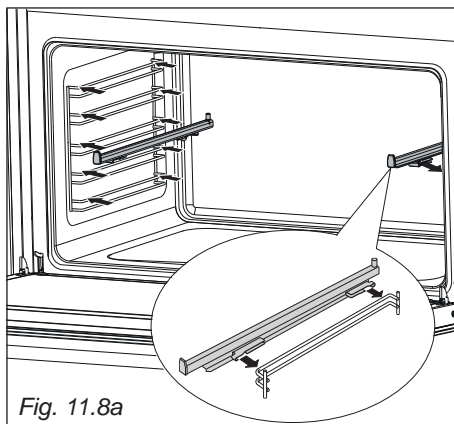

Fig. 11.8a
- Screw the side racks onto the oven wall (and the catalytic liners if supplied - fig. 11.8a).
- Fit the sliding shelf supports onto the top wire of a rack and press (fig. 11.8a). You will hear a click as the safety locks clip over the wire.
- Remove the side racks (and the catalytic liners if supplied) by unscrewing the fixing screws (fig. 11.8a).